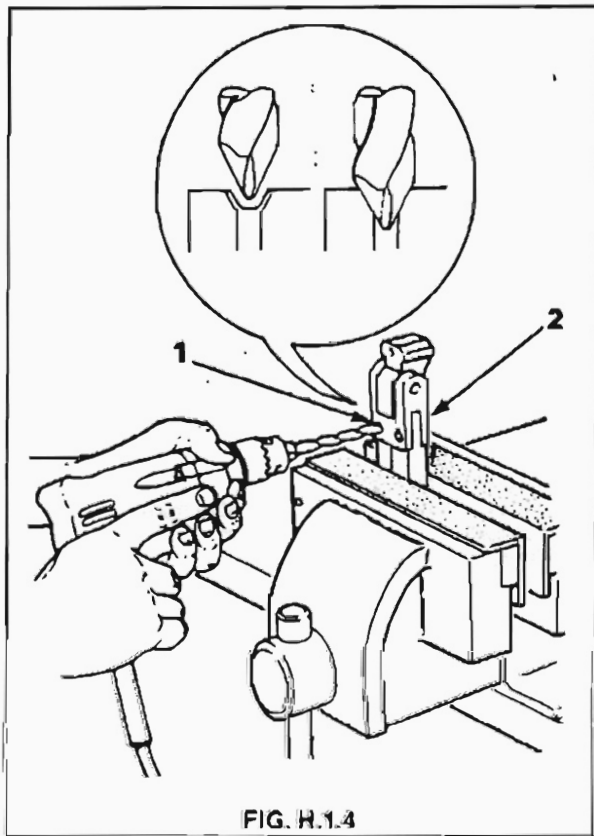

FIG. H.1.4
2. Support the bipod assembly and drill off the heads of the leg axis pins using a 4,93 mm diameter twist drill. Drive out the remains of the pins, using a suitable punch and hammer. Fit new axis pins on assembly and form heads at both ends of axis pins. See Fig. H.1.4 and H.1.6.